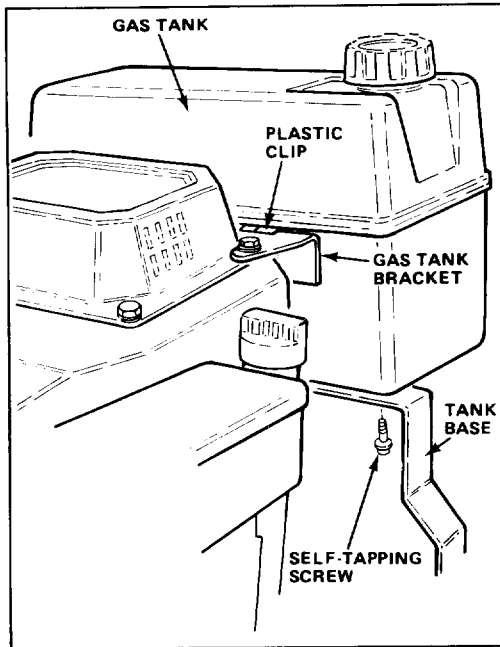

Figure 2
1. Slide plastic clips on gas tank through holes in gas tank bracket (Fig. 2).
2. Secure gas tank to tank base with (2) self-tapping screws (Fig. 2). Do not overtighten screws.